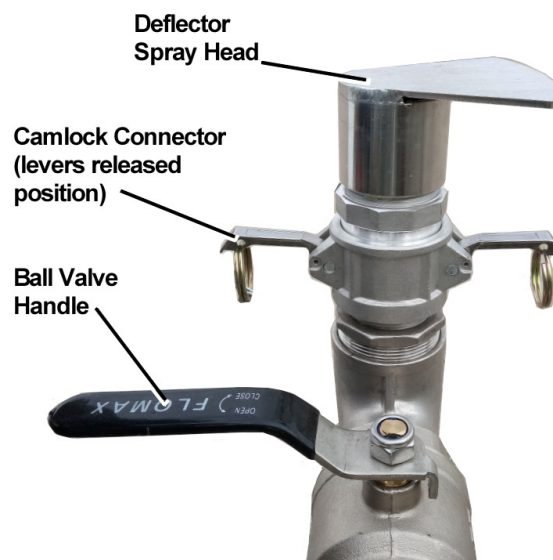

Figure 9 – Water Deflector Spray Head
1. If required, release the camlock connector to rotate the deflector spray head to the desired angle, refer to Figure 9. Lock the spray head back into place, ensuring the camlock levers are fully home.